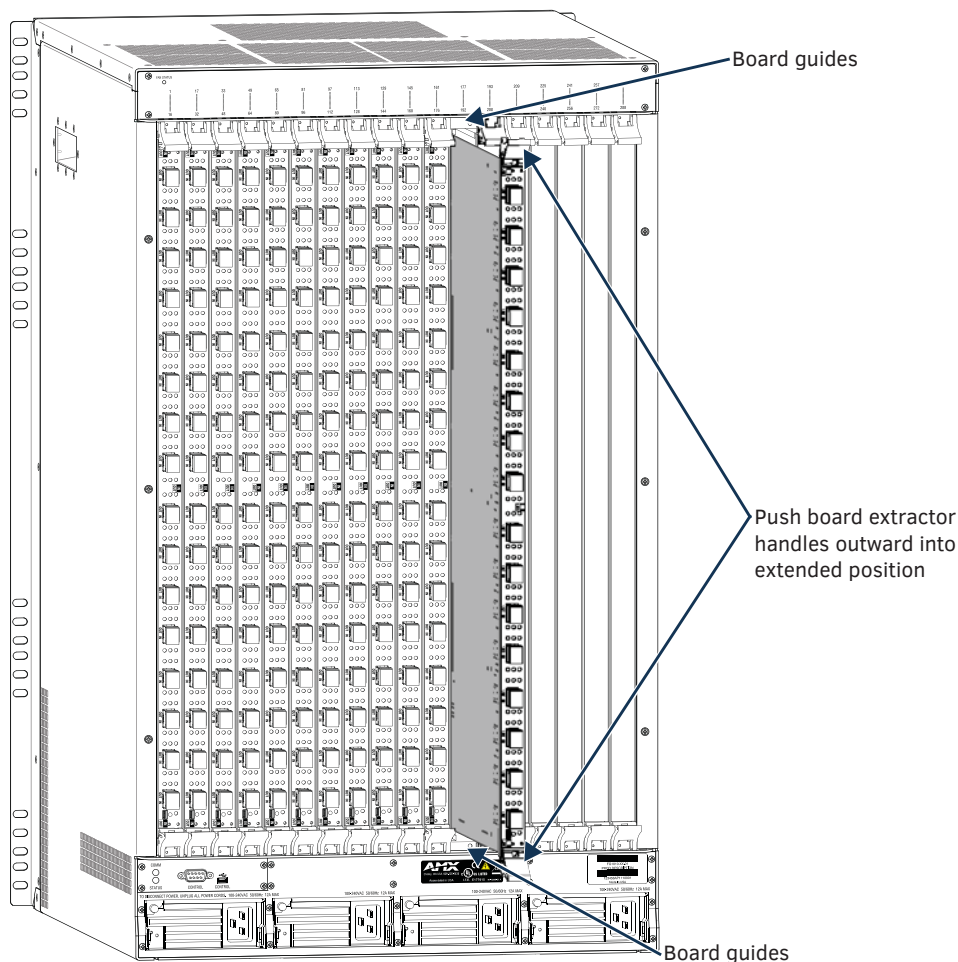

FIG. 34 Push out on extractor handles and then pull board straight out
6. With the board's extractor handles in the extended (unlocked) position, line up the board's edges on the board guides that are along the top and bottom of the board slot (FIG. 34).